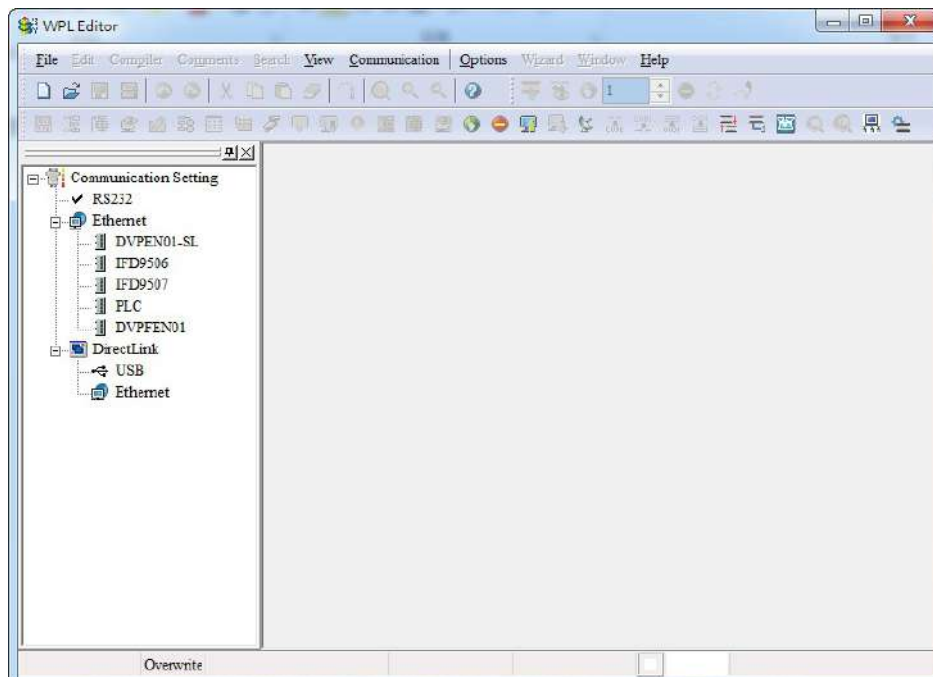

Figure 16-9
Step 2. Then the WPLSoft editing window appears (see Figure 16-9 below). When running the WPLSoft for the first time, before you create a new project file, the menu bar shows only **File**, **View**, **Communication**, **Options**, and **Help** menus.